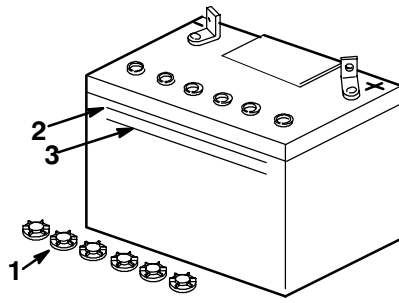

Figure 37
2. Look at the side of the battery. The electrolyte must be up to the “UPPER” line (Fig. 37). Do not allow the electrolyte to get below the “LOWER” line (Fig. 37).
3. Remove the vent caps from the battery (Fig. 37).
4. Slowly pour distilled water into each battery cell until the level is up to the “UPPER” line (Fig. 37) on the battery case.
5. Wait five to ten minutes after filling the battery cells. Add distilled water, if necessary, until the electrolyte level is up to the “UPPER” line (Fig. 37) on the battery case.